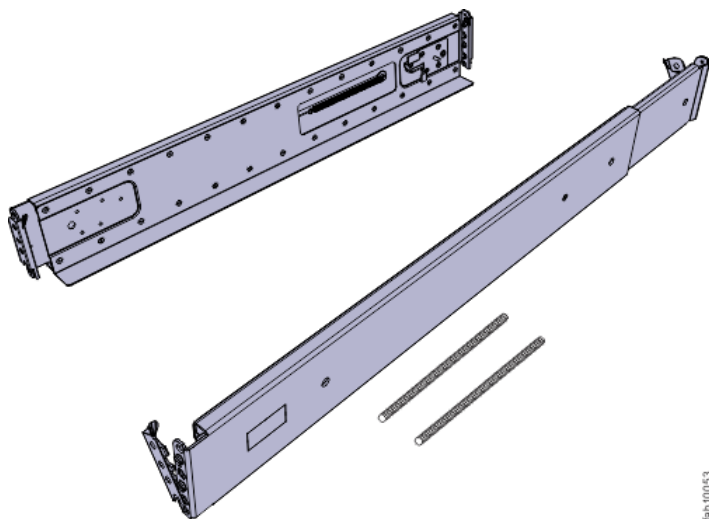

Figure 25. Expansion enclosure support rails
1. Locate the expansion enclosure rails (Figure 25 on page 67).